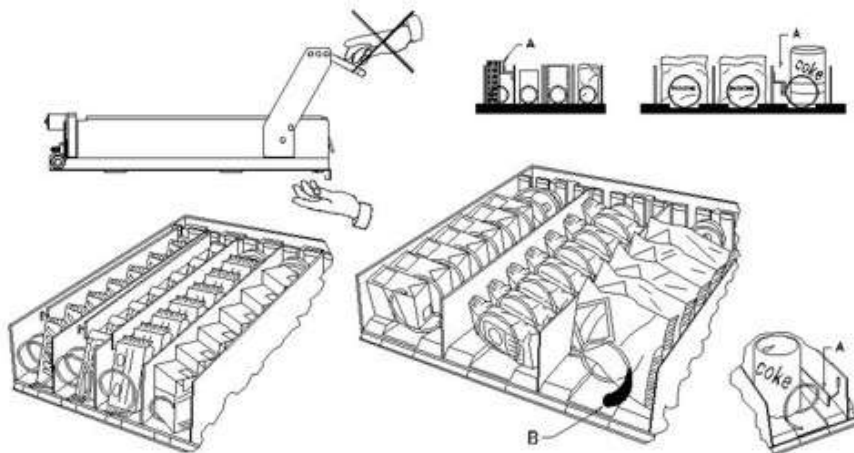

fig. 3
8.2 TRENNWÄNDE FÜR PRODUKTE IN DEN SCHUBLADEN (fig. 3)
8.3 AUSSTOßER FÜR PRODUKTE (fig. 3)